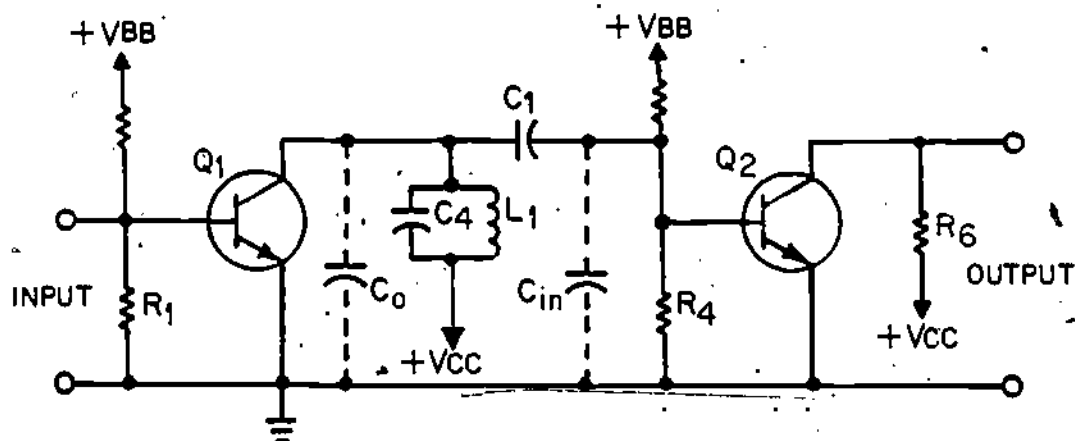

Figure 26
- (28) At high frequencies, even a straight piece of wire has some of the characteristics of an inductor or capacitor. When an engineer designs an RF amplifier, he takes these "stray reactances" into consideration. The major concern for you to remember when working with RF circuits is "neatness and caution". Wires should not be physically moved. A repaired circuit should be made to look as nearly as possible like the original circuit. Just moving a wire a small amount may change the F_o of an amplifier by several kHz or make it oscillate. An example of the effect of stray reactance is shown in the amplifier circuit in Figure 26.